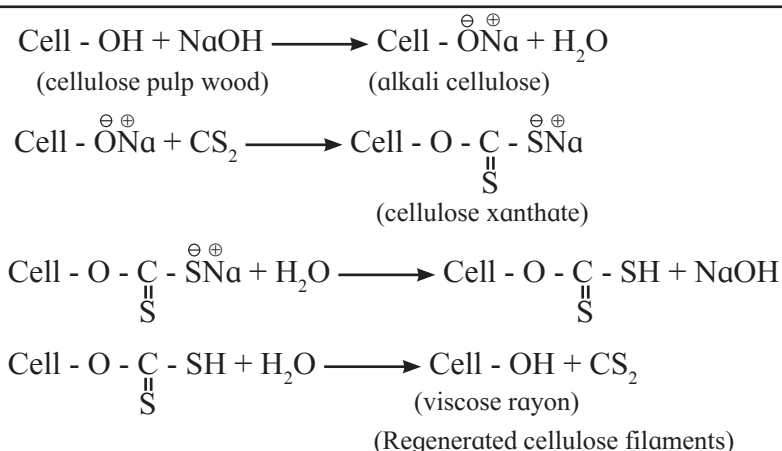

Fig. 15.7 : Formation of viscose rayon
15.3.10 Viscose rayon : Viscose rayon is a semisynthetic fibre which is regenerated cellulose. Cellulose in the form of wood pulp is transformed into viscose rayon. Cellulose is a linear polymer of glucose units and has molecular formula $(\text{C}_6\text{H}_{10}\text{O}_5)_n$. A modified representation of the molecular formula of cellulose Cell-OH, is used in the reactions involved in viscose formation, as shown in Fig. 15.7. Cellulose in the form of wood pulp is treated with concentrated NaOH solution to get fluffy alkali cellulose. It is then converted to xanthate by treating with carbon disulphide. On mixing with dilute NaOH it gives viscose solution which is extruded through spinnerates